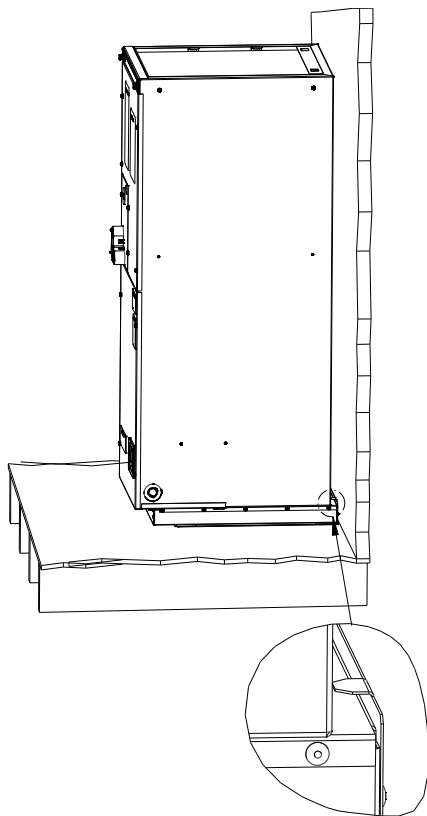

Fig. 4 – Unit Placement
7. Slide the unit to the back of the base. Make sure the tabs go into the slots of the casing when you slide the unit back (Fig. 4).